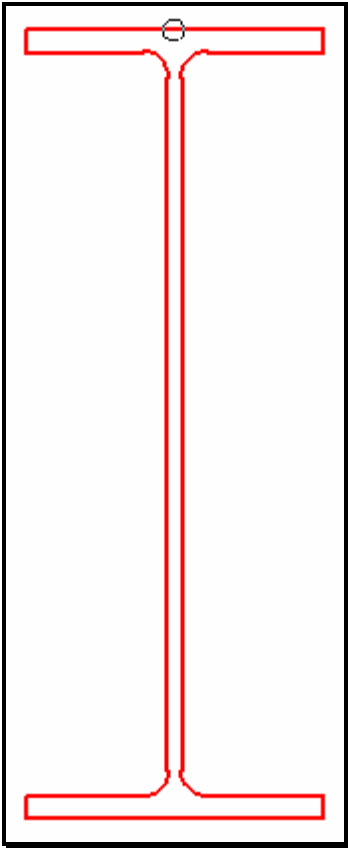

Figure 2-115: Placed Shape
The shape should appear where you *Datapoint* (Figure 2-115).
- ♪ Notice the circle at the center of the top flange in Figure 2-115. This is the **Origin** point that I selected in **Step Three**.